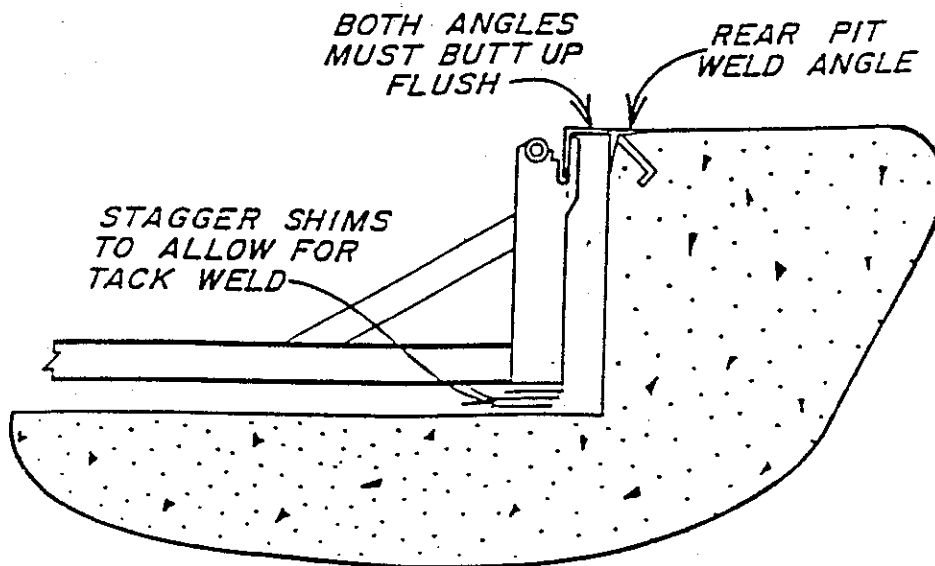

Figure 4
6. Once a flush fit is obtained all around the leveler, tack weld the two rear angles together. Refer to figure 4.